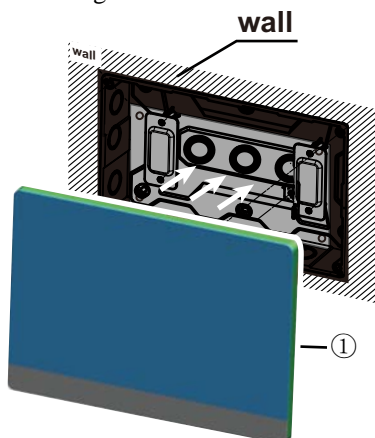

Fig. 7 — Installing the Controller
After wiring, install the controller (1) onto the mounting plate. Position the holes over the metal hooks and slide down to lock into place. See Figure 7.